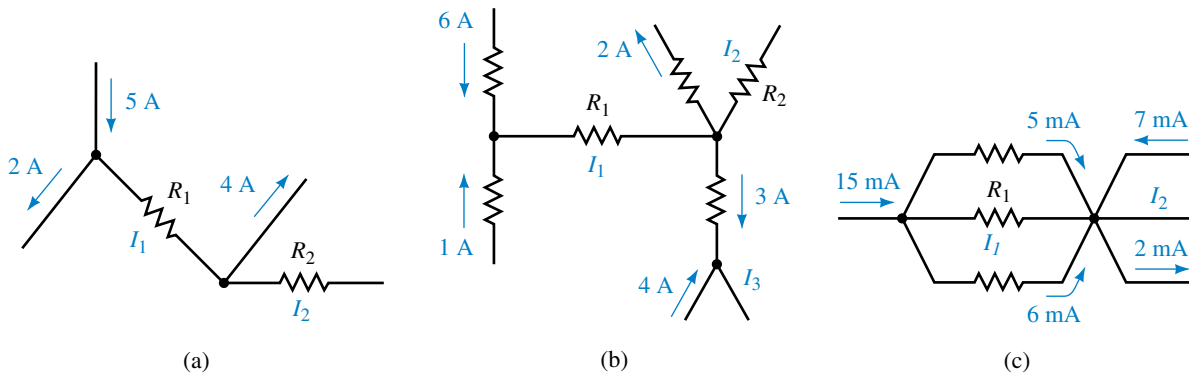

FIGURE 6–51
6. For the circuit of Figure 6–52, determine the magnitude and direction of each of the indicated currents.